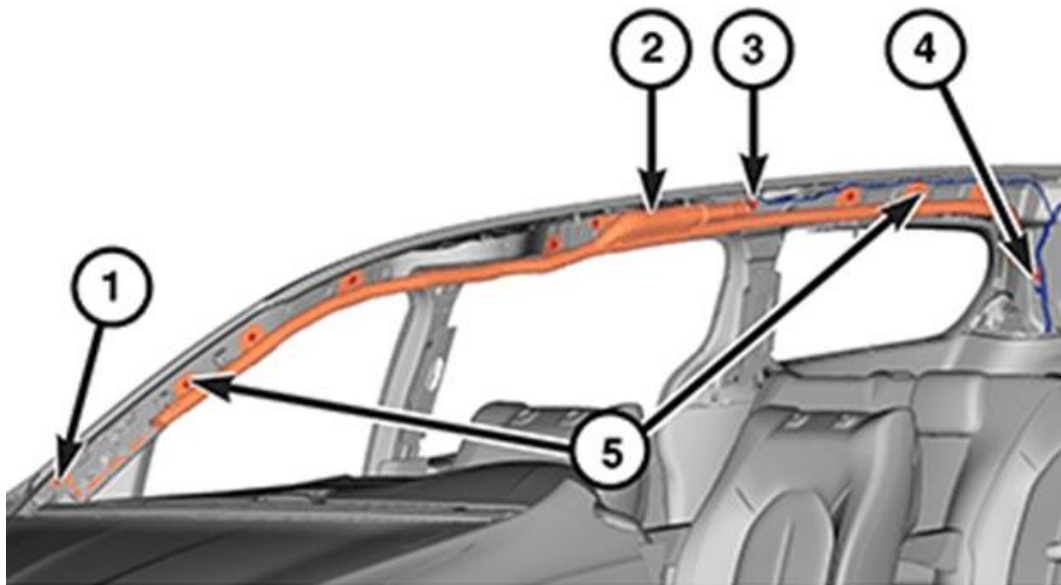

Figure 25 – Side Curtain Airbag (CAB)
55. Disconnect the body wire harness connector for the CAB from the connector receptacle of the inflator above the front door opening (Figure 25).
56. Remove the fastener that secures the airbag front tether to the A-pillar (Figure 25).
57. Remove the fastener that secures the airbag rear tether to the D-pillar (Figure 25).
58. Remove the fasteners that secure the CAB to the inner roof rail (Figure 25).
59. Remove the CAB from the vehicle as a unit and **DISPOSE** of in a proper manner (Figure 25).
- 61. Clean the CAB mounting studs with mineral spirits, toluene, or equivalent (Figure 25).
- 62. Apply blue threadlocking compound Mopar Part Number 04318031AB (MS-90061) or equivalent to the CAB mounting studs (Figure 25).
- 63. Install the **NEW** CAB to the vehicle as a unit (Figure 25).
- 65. Working from front to rear, install the fasteners that secure the CAB and the inflator bracket to the inner roof rail and tighten to 6 N·m (53 in. lbs.) (Figure 25).
- 66. Install the fastener that secures the airbag front tether to the A-pillar and tighten to 6 N·m (53 in. lbs.) (Figure 25).
- 67. Install the fastener that secures the airbag rear tether to the D-pillar and tighten to 6 N·m (53 in. lbs.) (Figure 25).
- 68. Connect the body wire harness connector for the SABIC to the connector receptacle of the inflator above the sliding door opening (Figure 25).